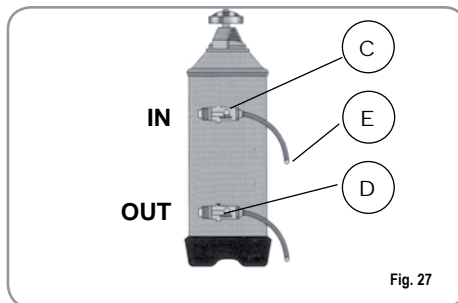

Fig. 27
1) Turn the machine off and place a container large enough to contain at least 5 litres under tube E (Fig. 27).